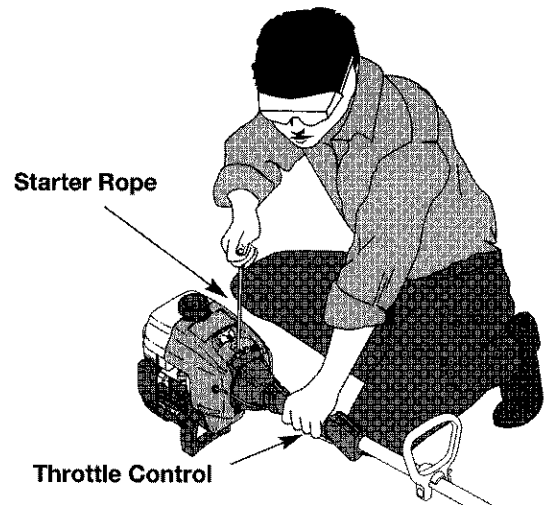

Fig. 11
WARNING: Avoid accidental starting. Be in the starting position when pulling the starter rope (Fig. 11). The operator and unit must be in a stable position while starting to avoid serious personal injury.
5. With the unit in the starting position (Fig. 11), squeeze the throttle control to the wide open (full throttle) position and pull the starter rope briskly 5 times in the **FULL** choke (A) |←| position. If the engine attempts to run before the fifth pull, proceed to step 6.
7. Pull starter rope briskly 1 to 3 times to start the engine (Fig. 11).
1. Release your hand from the throttle control (Fig. 11). Allow the engine to cool down by idling.